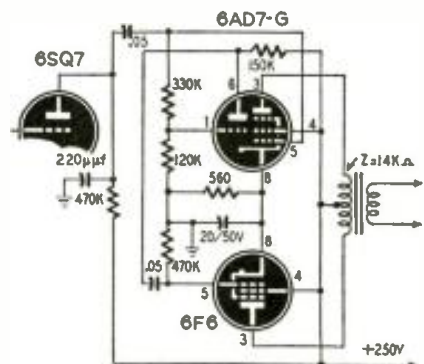

Fig. 2—Circuit of the push-pull stage.
A. The circuit of the audio section of the T-64 is shown in Fig. 1. Fig. 2 is
current of the push-pull stage in Fig. 2 is approximately 53 ma. If the power transformer in the set is not already operating at top capacity, the added drain should not cause overheating.